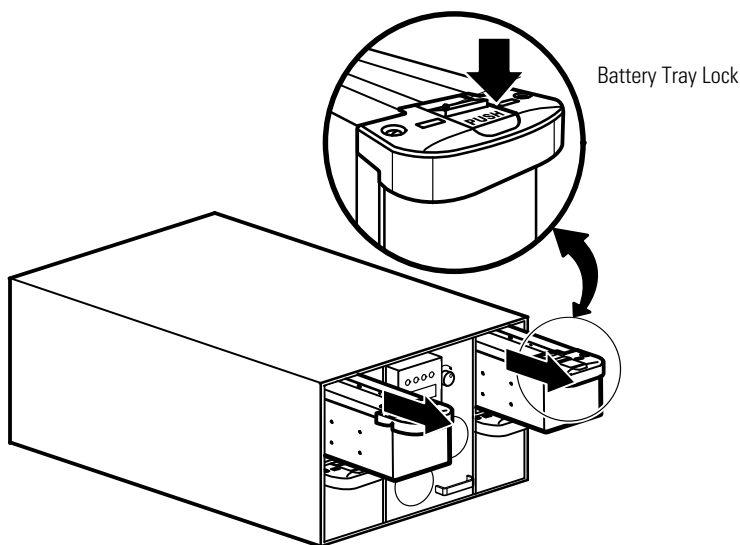

Figure 45. Removing the Battery Trays
2. Push down and hold a battery tray lock to unlock a tray. Pull the battery tray slowly out onto a flat, stable surface; use two hands to support the tray. See Figure 45.